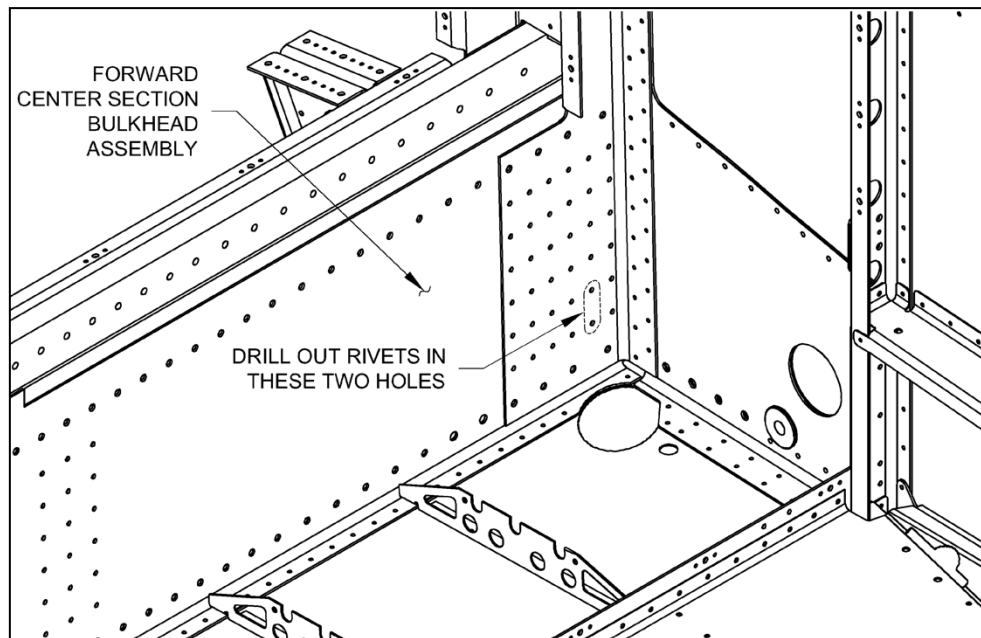

FIGURE 3: REMOVING RIVETS FROM BULKHEAD
Step 18: Drill out the two AN470AD4 rivets located in Figure 3 from both sides of the Forward Center Section Bulkhead Assembly. For techniques on drilling out rivets, see KAI Section 5.4, "REMOVING 'AN' RIVETS".